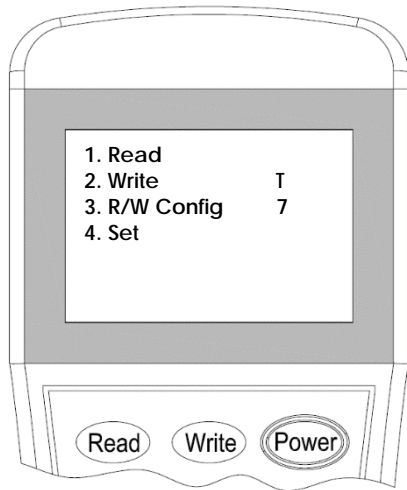

Figure 12
2. Switch-on the programmer, then press button **"3"** to enter to **Configuration mode** (Figure 12).